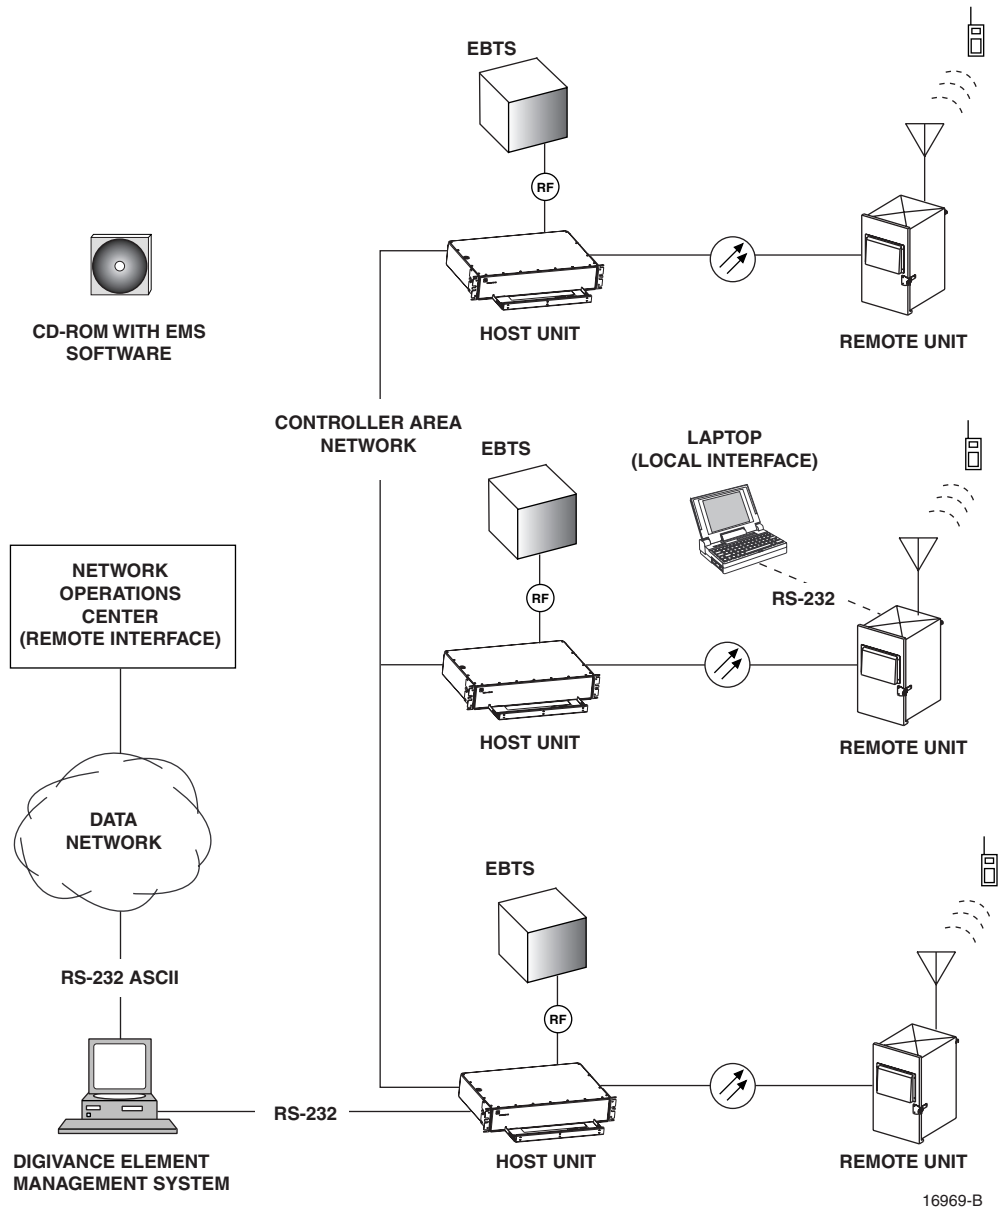

Figure 1-1. System Overview Diagram
The basic components of a single band Digivance LRCS system and their functions are shown in Figure 1-1. A single band LRCS system consists of the Host Unit (HU) and the Remote Unit (RU). Control and monitoring functions are provided by the Digivance Element Management System (EMS). On an optional basis, each HU and RU system may be ordered either with or without reverse path diversity. In addition, various accessory items including a back-up battery kit (for the RU), a Wave Division Multiplexer (WDM) module (for the HU and RU), network cables (for connecting multiple HU's together), and EMS cable (for connecting the EMS computer to the HU) are available separately.